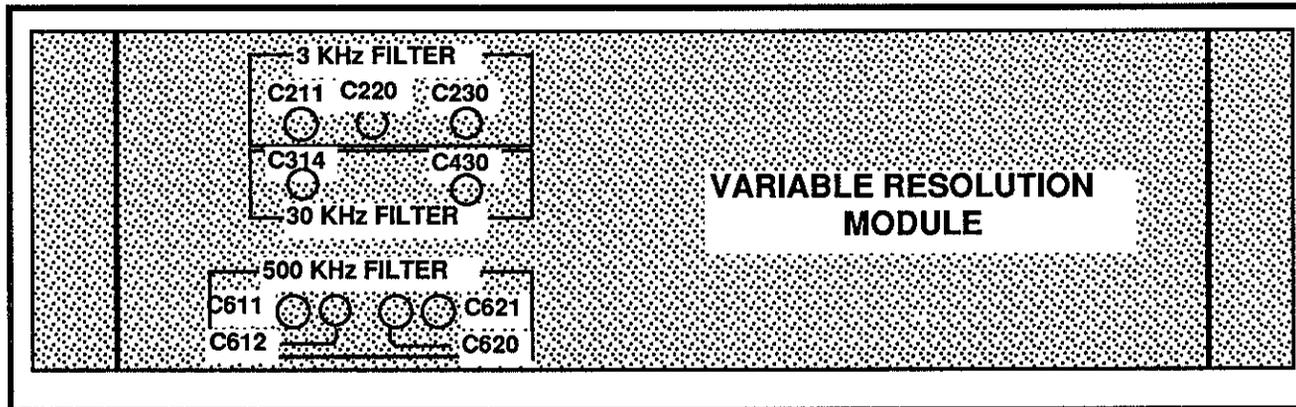

Figure 4-10. Variable Resolution module adjustment locations.
(1) Enable the calibrator signal and set the RESOLUTION BW at 500 kHz and FREQ SPAN/DIV at 500 kHz.
(2) Adjust C610, C611, C620, and C621 on the VR Filter Select board (Figure 4-10) for highest amplitude, best filter shape, and centering at center screen.
(3) Check that ripple is less than 1 dB_{p-p}. Typical ripple ranges from 0.4 dB_{p-p} to 0.6 dB_{p-p}.